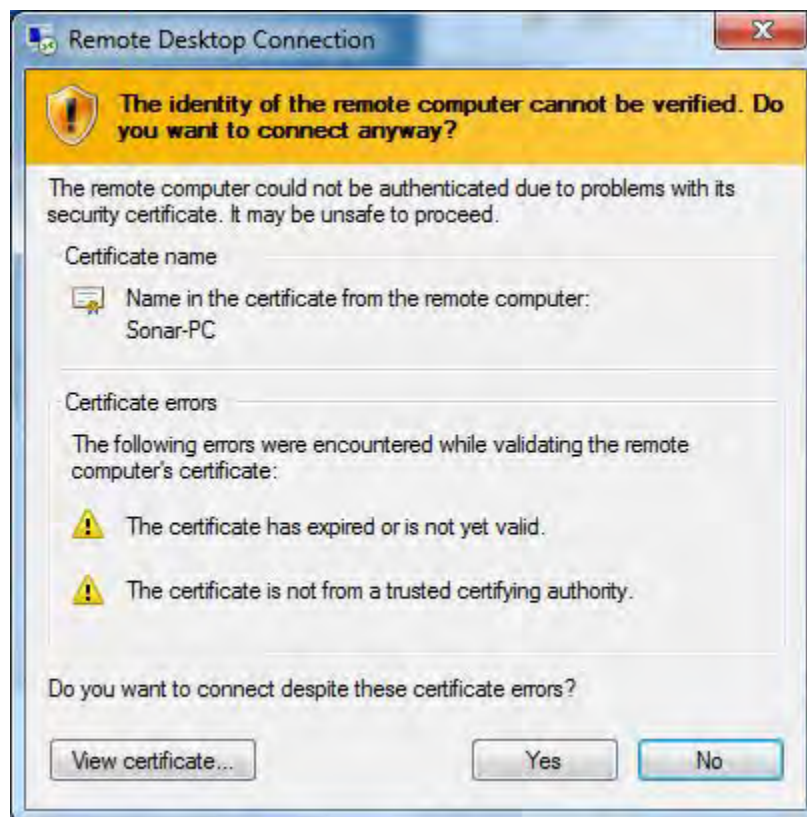

Figure 5-6: Remote Desktop Warning Screen
3. If a warning pops up, as shown in **FIGURE 5-6**, click Yes before proceeding.